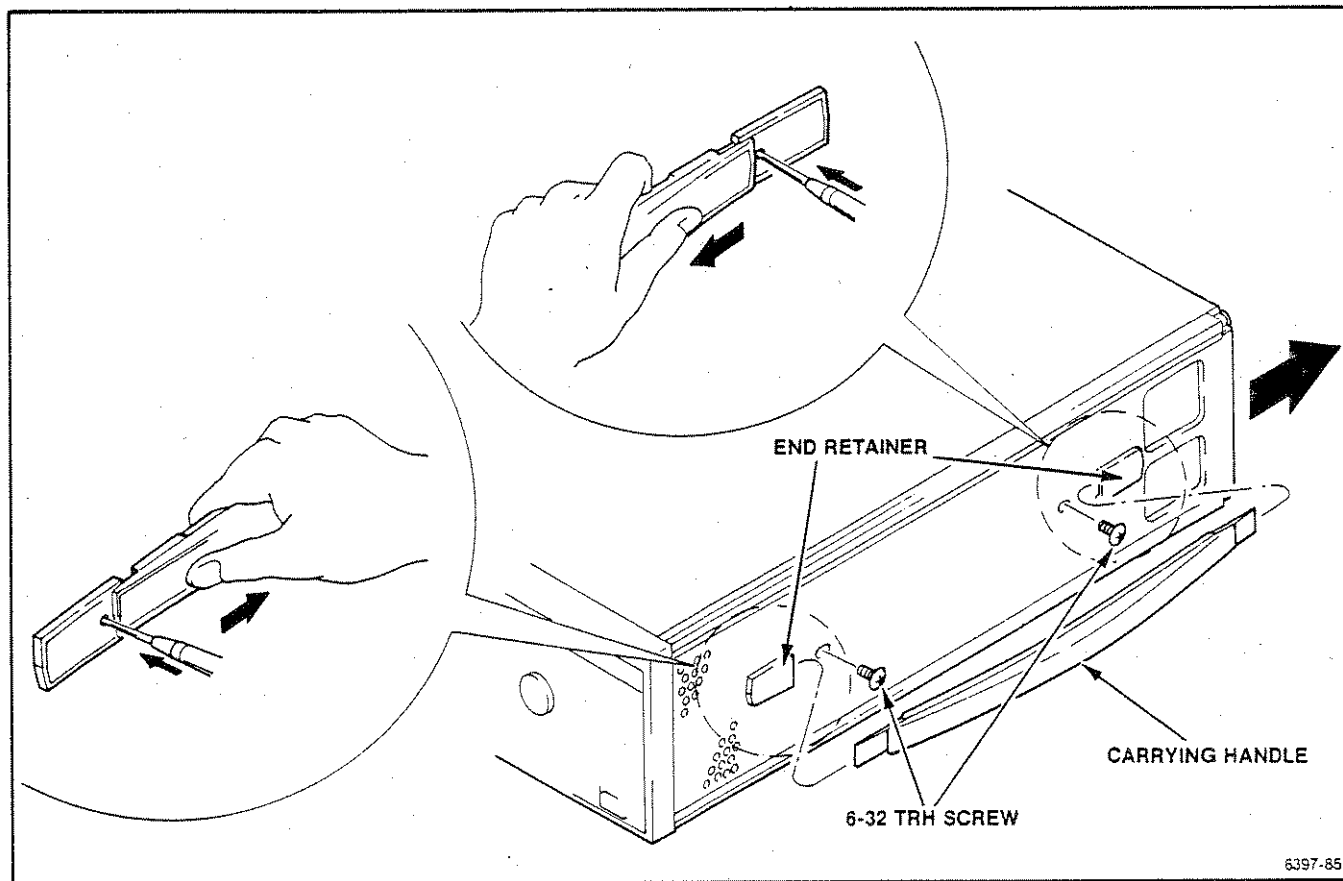

Fig. 3-4 Right side cabinet cover carrying handle removal
- a. Pull one end of the Carrying Handle out of its end retainer to expose the small hole in the retainer (Figure 3-4).